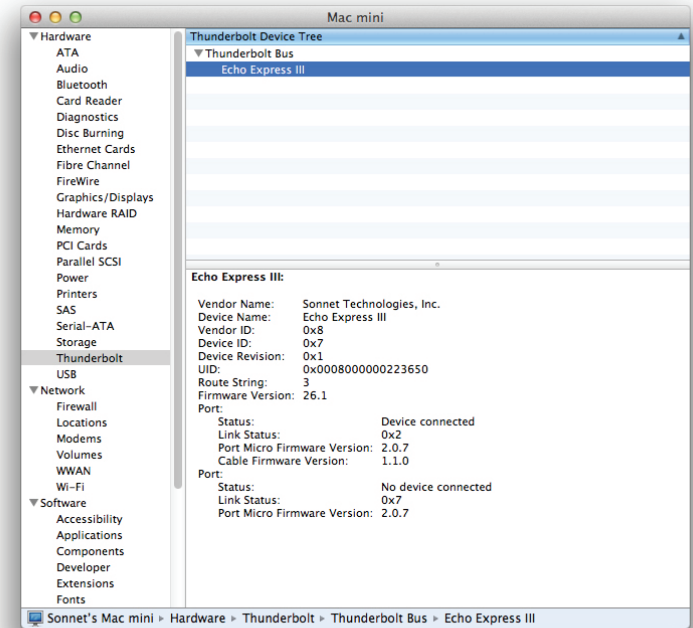

Figure 19
5. In the *System Information* window, click Thunderbolt under the Hardware header in the left column (Figure 19).
6. In the top right column under the Thunderbolt Device Tree header, you will see the computer, followed by “Echo Express III” (Figure 19).